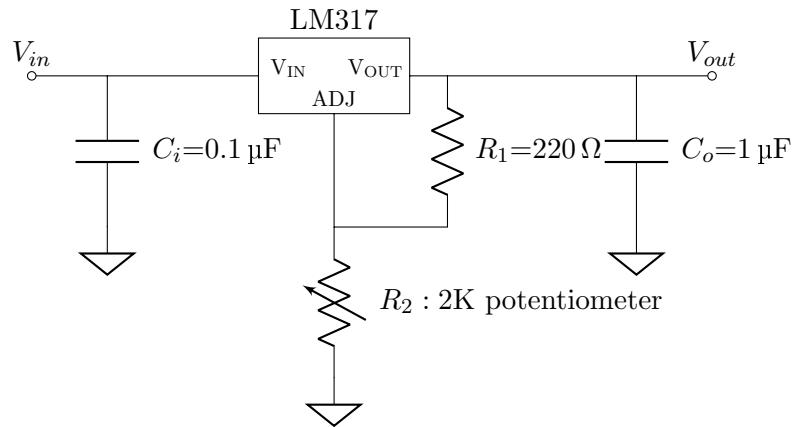
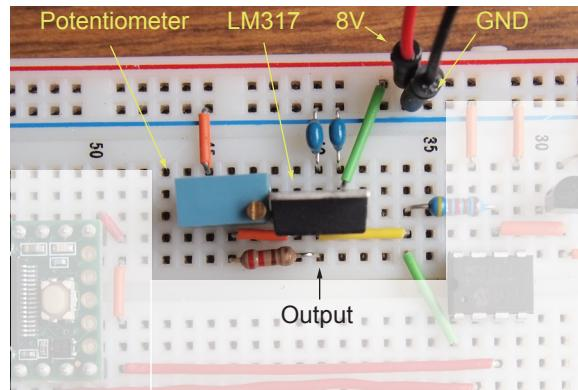

Figure 8: Schematic of the voltage regulator circuit using LM317.
Figure 9: An example breadboard layout of the circuit in Fig. 8.
1. Using Fig. 8 as a reference, build the regulator circuit on the breadboard. You should be able to find the LM317 pinout diagram from its datasheet, which you find from online. *As a general suggestion, it is important to keep your circuit well laid out and keep the connecting wires as short as possible. Cut the wires to the right length if necessary.* Fig. 9 shows an example breadboard layout for the LM317 regulator circuit in this lab.